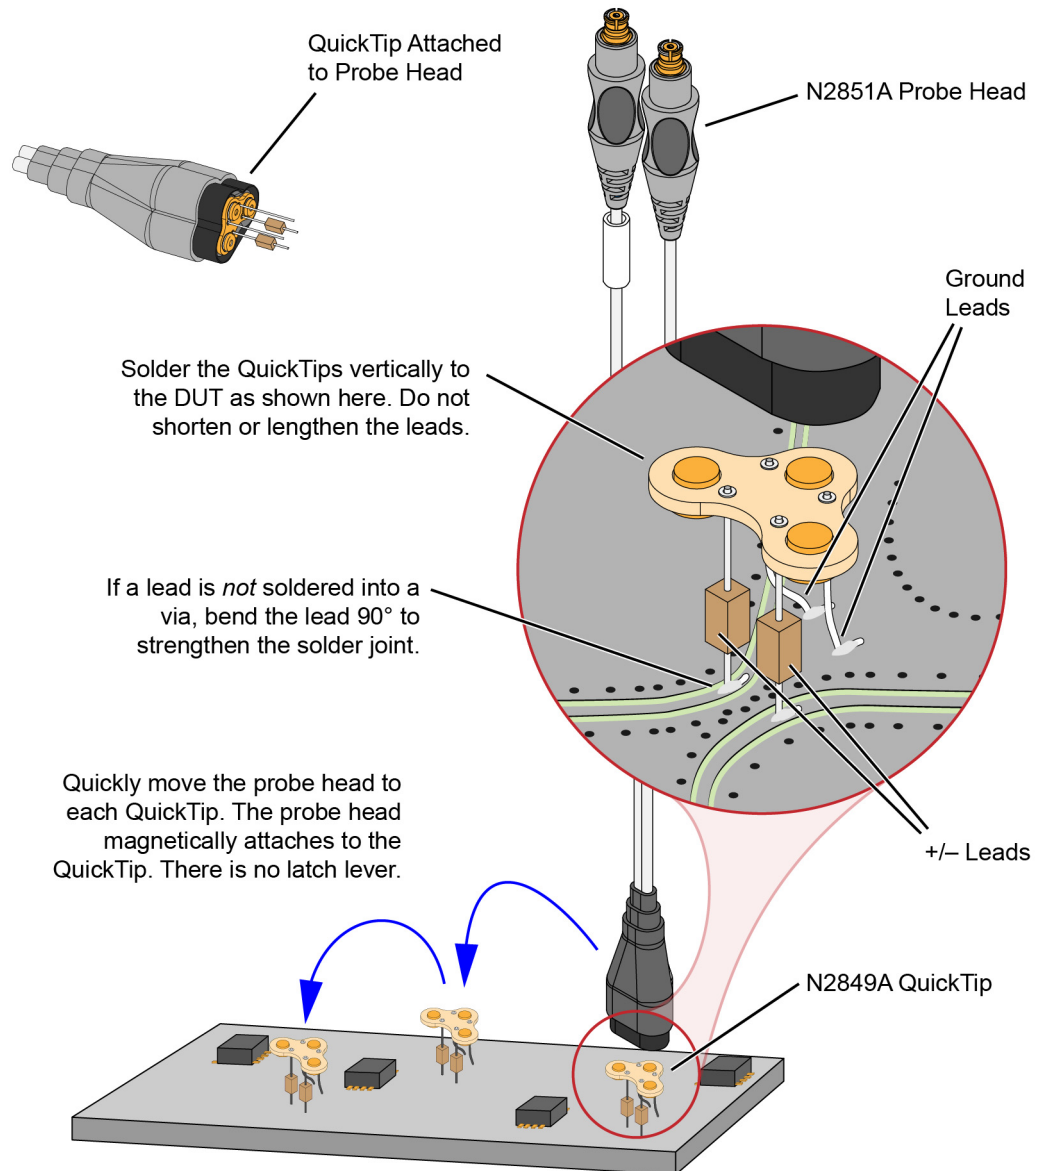

Figure 35 Probing with the N2851A Probe Head and N2849A QuickTip
Permanently solder any number of QuickTips to your DUT as shown in Figure 35 on page 63. Because the probe head is magnetically connected (instead of mechanically connected) to the QuickTip, you can effortlessly connect and disconnect to each QuickTip. For best performance, position the QuickTip vertically on the DUT. The N2849A QuickTip has two signal leads and two ground leads. The ground leads have minimal effect on your differential measurements. However, if you are making only differential measurements you can optionally cut off the ground leads or fold them out of the way. Be aware that without the ground leads, the mechanical stability of the QuickTip will be reduced and you will need to stabilize the probe head.
- Orient the QuickTip vertically as shown in **Figure 35** on page 63.